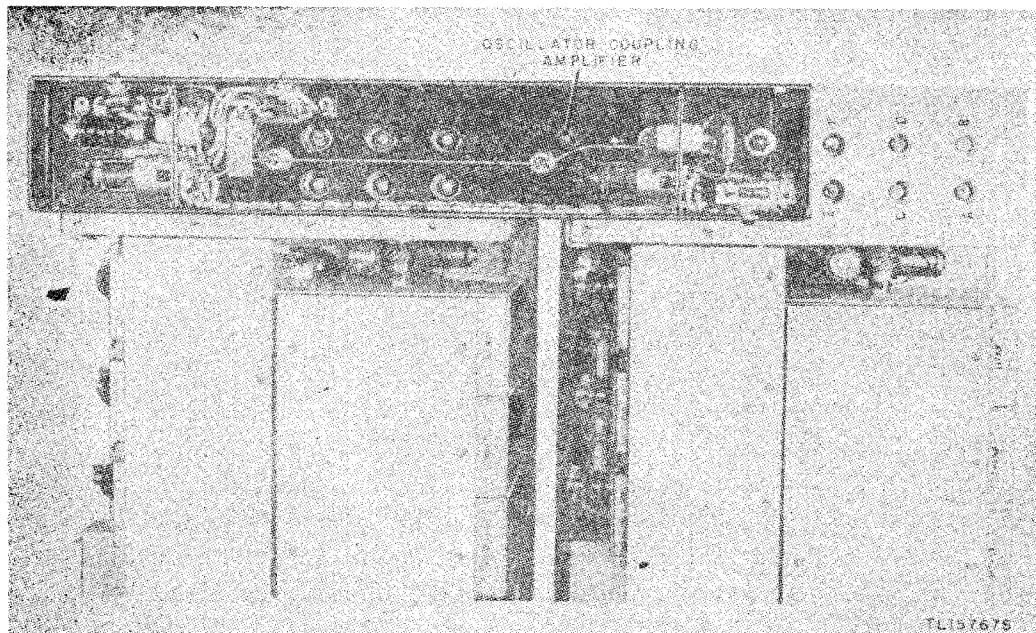

Figure 91 (Added). Radio Receiver Assembly OA-65()/MRC-2, in position for alinement.*
a. Remove the six screws holding the cover to the oscillator-amplifier and lift the cover from the chassis. Remove the two elastic stop nuts which hold the amplifier chassis to the receiver case and remove the amplifier. Stand both Channel A and Channel B Receivers on the power-supply end in the same relative position they occupied when in the receiver cases. Remove the protecting screw caps, which permit access to the r-f trimmer adjustment screws, and loosen the trimmer locknuts. Plug the oscillator-amplifier into the two receivers (fig. 91).